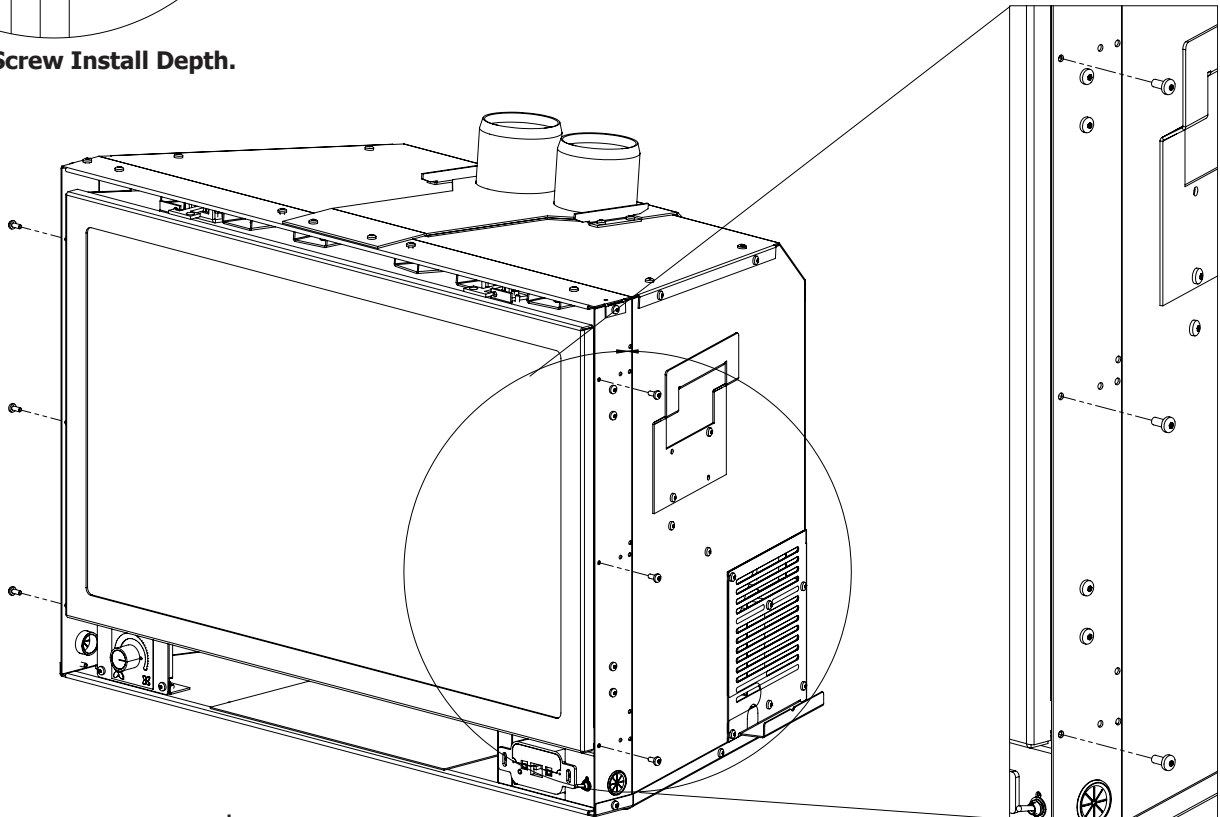

Figure 41: Reinstalling Screws.
3. Install three (3) screws halfway into the Cabinet as shown in Figure 41.